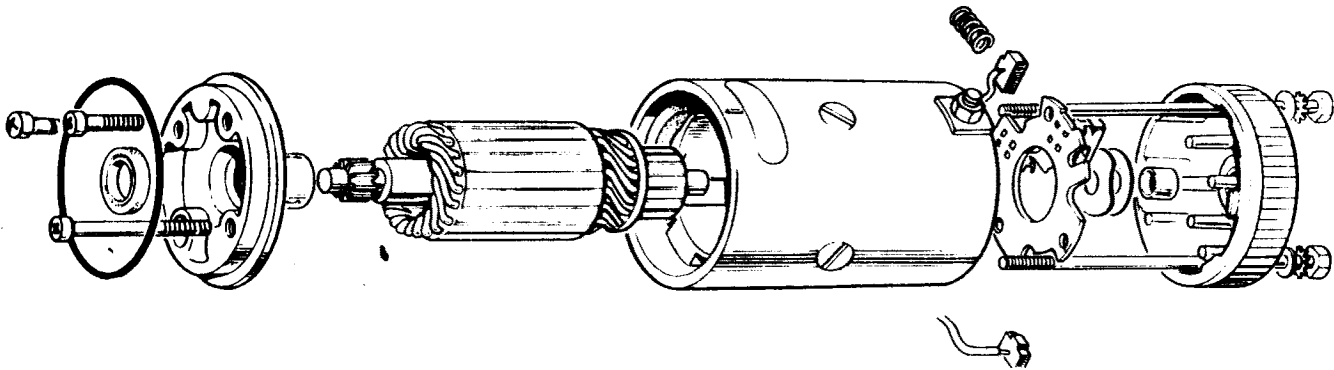

Fig. J14 Electric starter motor: Exploded arrangement: Showing order of assembly
- 8 Collect the thrust washer and spring-shim from the commutator end, observing the order of assembly for re-building; spring-shim next to commutator. See Fig. J14.